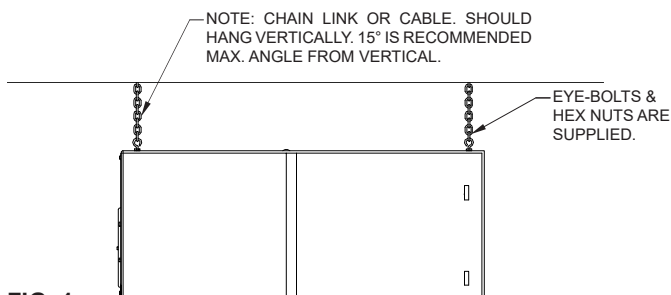

FIG. 1
2. Once eye bolts are secured, the Range Boss is ready to be hung in an appropriate location. (See FIG. 1)